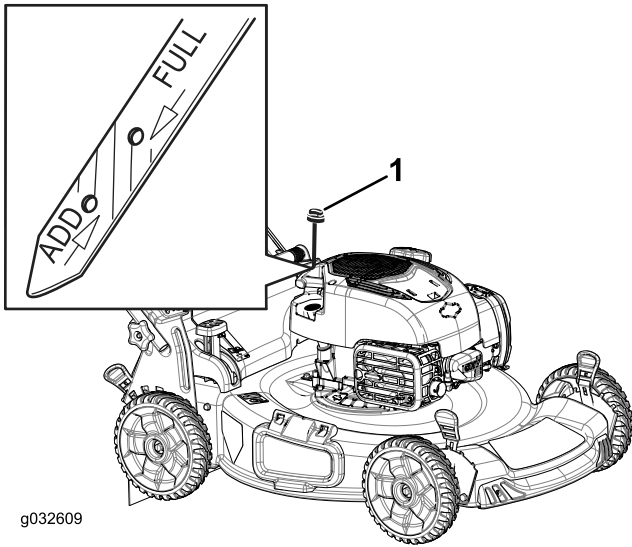

Figure 10
1. Remove the dipstick (Figure 10).
2. Slowly pour oil into the oil fill tube until the oil level reaches the Full line on the dipstick (Figure 10). **Do not overfill.**